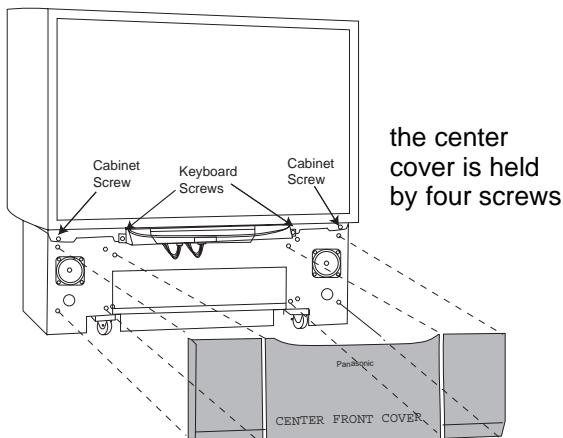

Figure 11. Front Cabinet Removal
(Figure 11)
3. Remove (2) hex cabinet screws (See Figure 11)